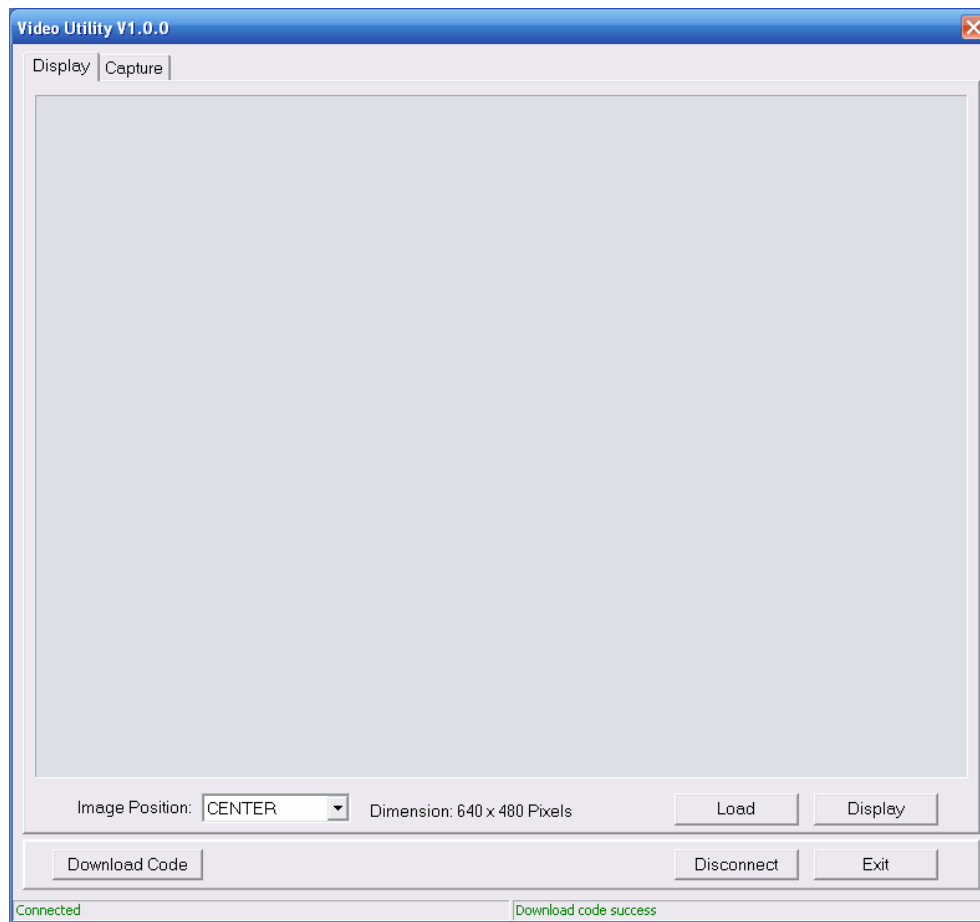

Figure 4.1. The DE2-70 Video Utility window.
4. Start the executable *DE2_70_VIDEO.exe* on the host computer. The Video Utility user interface shown in Figure 4.1 will appear.